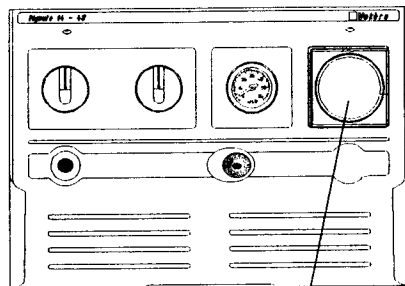

Fig. 1
- (A) Fitting Vokera 24 hour time switch (part no. 032 G.C. no. 301 110), fitting Vokera digital 7 day time switch (part no.005 G.C. no. 301 109) and Vokera 2 channel programmer (7 Day) (part no. 081 G.C. no. 370 395).**
- (B) Wiring to external time switches, room thermostats and frost thermostats.**
- (C) Wiring to 'Y' plan or 'S' plan installations.**
Remove the clock aperture blanking plate (1) (fig. 1) by squeezing the four lugs on the rear of the plate together and push the plate out.
Remove the clock aperture blanking plate (1) Fig. 1. by squeezing the four lugs on the rear of the plate together and push the plate out.